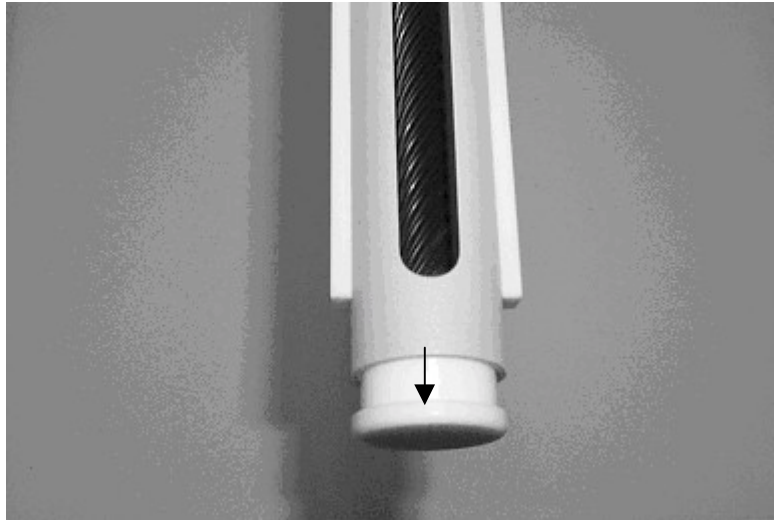

Figure 1-7. Removing the endcap from the arm tube.
6. By removing the painted screw, the endcap may then be removed from the arm tube. See Figure 1-7.